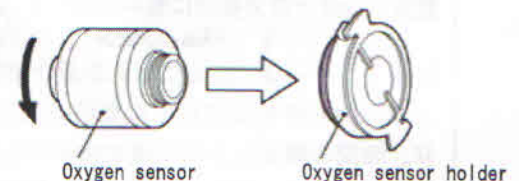

Fig. 2
1. Assembling the oxygen sensor <Fig. 2>